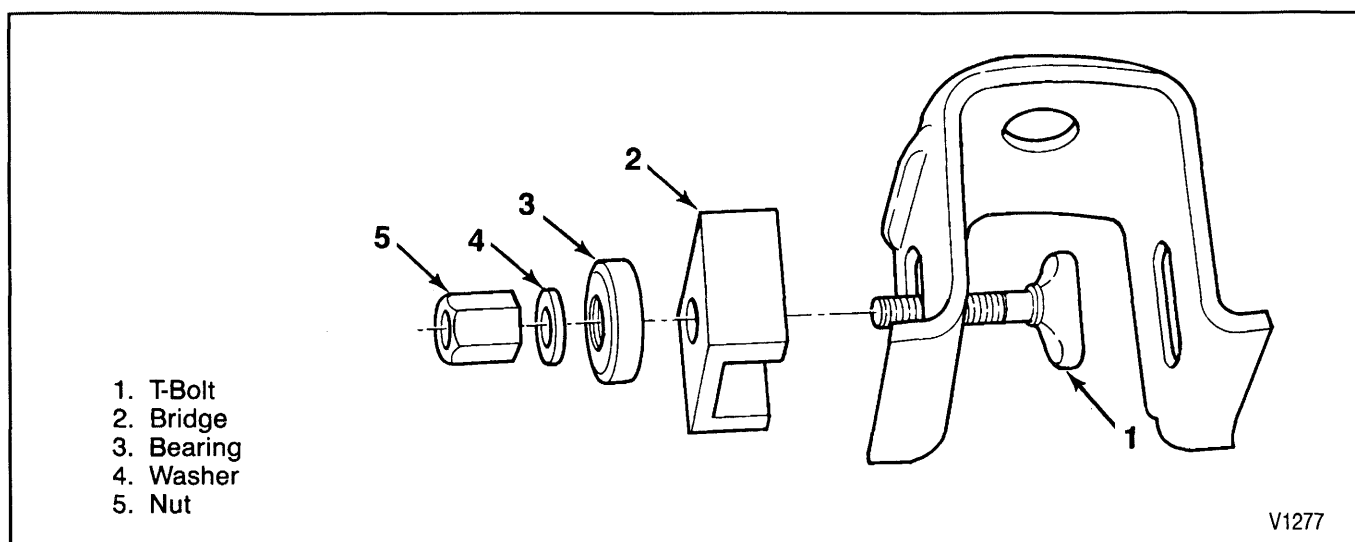

Figure 4—Knockout Tool Components
2. Nuts (50), cams (49), and bolts (48) from the upper control arm bracket (44).
3. Lift upper control arm (45) up and to the side to gain access to the inner portion of the frame bracket.
4. Frame bracket knockout using tool J 38794 (figure 4).